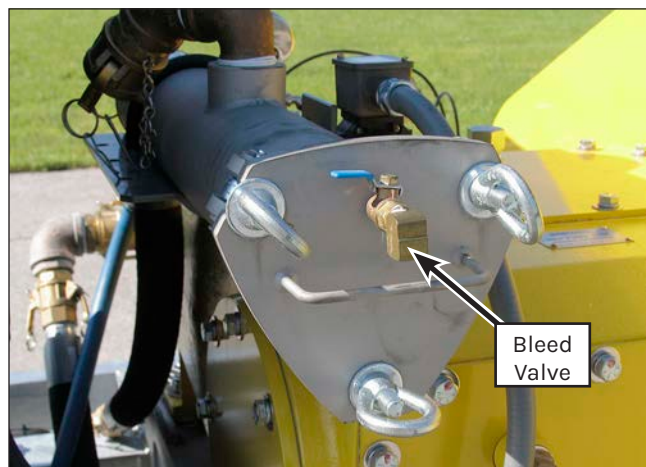

Figure 32: Secondary Filter Bleed Valve.
1. If operating at 40K, first open the bleed valve (Figure 32) and allow any air to purge from the secondary filter. Once a steady flow of water exits the filter, close the valve.
6. 5200 pump differences: The plumbing arrangement is slightly different on the 5200 power end. It is located in the rod box and the adjustable flow controls are integrated into the elbow fittings (Figure 32).